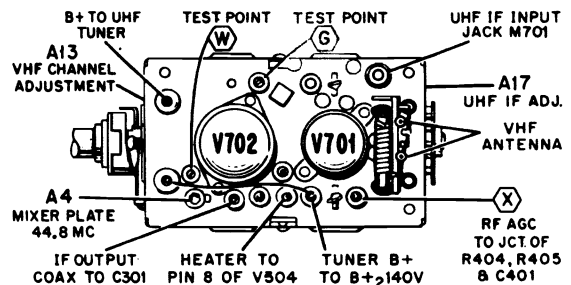

Fig. 2 TOP DRAWING OF VHF TUNER
Using needle nose alligator clip or looped end of hookup wire, connect signal generator high side to test point "G", low side directly to tuner, see Figure 2.
2. Using needle nose alligator clip or looped end of hook-up wire, connect sweep generator high side to test point "G", low side directly to tuner, see figure 2. Set sweep frequency to 43 MC, sweep width approximately 7 MC. If external marker generator is used, loosely couple high side to sweep generator lead, low side directly to tuner. Marker frequencies indicated on IF Response Curve.
VHF tuners used in these receivers feature high stability and trouble-free operation. In general, RF and mixer alignment is permanent. However, individual channel oscillator screws or slugs are provided, should oscillator adjustment be required after replacement of VHF oscillator tube. For tuner adjustment locations, see figures 2 and 3. If it is definitely determined that complete tuner alignment is required, return tuner to your Admiral distributor for repair or replacement. Note: VHF Channel Adjustment can be made from side of set after removing VHF channel and fine tuning knobs.
To align UHF IF input coil, tune in UHF channel with normal picture and sound. Using non-metallic alignment tool very carefully adjust slug A17 for best picture, consistent with good sound. For VHF tuner adjustment locations, see figure 2.